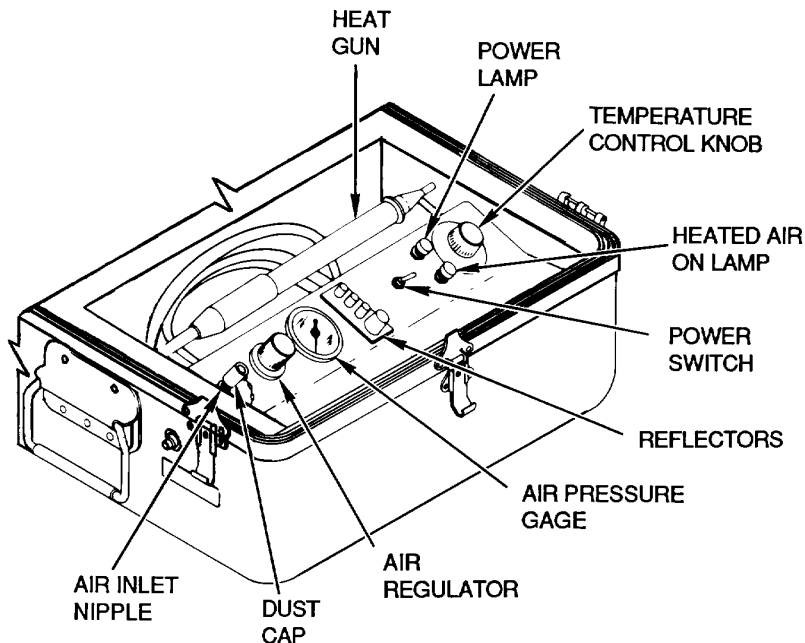

Figure 7. Compressed Air/Nitrogen Heating Tool
18. **OPERATION.** To operate compressed air/nitrogen heating tool (Figure 7), proceed as follows:
19. **POST-OPERATION.** After using compressed air/nitrogen heating tool (Figure 7), proceed as follows: